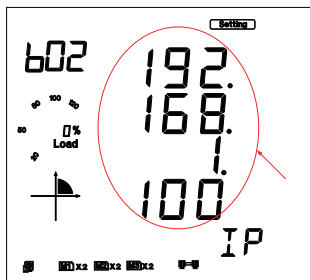

Fig 5-78
d). Set IP Address in the second setting page, such as 192.168.1.100 as shown below. Press the "V/A" key to go to the IP setting page. Users may set the parameters in the area pointed out in Figure 5-78. The cursor starts at the first digit. After setting the IP address press the "V/A" key to accept. Press the "P" key again to go to the third setting page for Subnet Mask.